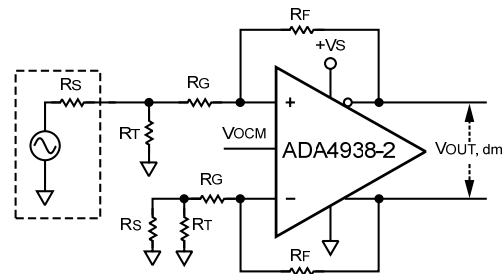

Figure 57. ADA4938 Configured for Unbalanced (Single-Ended) Input
For an unbalanced, single-ended input signal (see Figure 57), the input impedance is
**Table 10. Single-Ended Ground-Referenced Input, DC-Coupled,  $R_S = 50 \Omega$ ; See Figure 57**